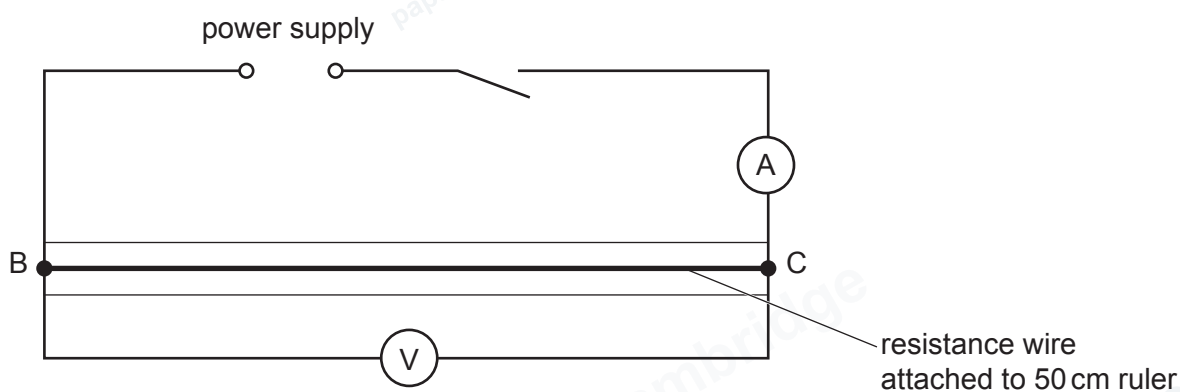

Figure 2.1
- (vi) 2 $\times$ suitable terminals (e.g. crocodile clips), labelled 'B' and 'C', attached to the nichrome wire at the ends of the 50 cm ruler so that connections can be made to the circuit shown in Figure 2.1. See note 4.
- (vii) Sufficient connecting leads to set up the circuit shown in Figure 2.1.
- 1 The circuit is to be set up for the candidates as shown in Figure 2.1.
Reconnect the circuit so that it is arranged as shown in Figure 2.1.